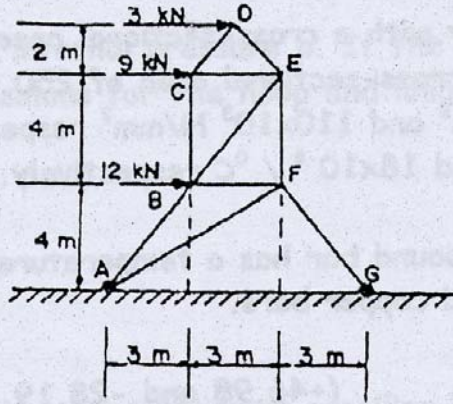

FIG 10
10. Figure 10 shows a vertical, plane, pin-jointed frame hinged to a rigid base at A and C and horizontally loaded at B, C and D. Using the method of joint equilibrium, find the forces in the members of the frame and thus calculate the horizontal and vertical reactions at the hinges. Show the forces and reactions clearly on a sketch of the frame.